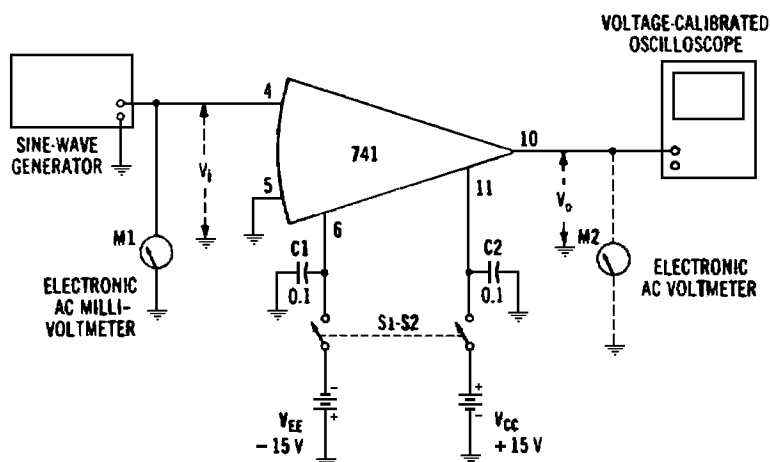

Fig. 2-15. Open-loop frequency response.
### Required Equipment (Fig. 2-15)
1. With switch S1-S2 open, the generator off and its output attenuator set to zero, and the oscilloscope off, set up the test circuit as shown in Fig. 2-15. (In this experiment, the IC runs "wide open" and is "touchy." Keep all leads short and direct.)